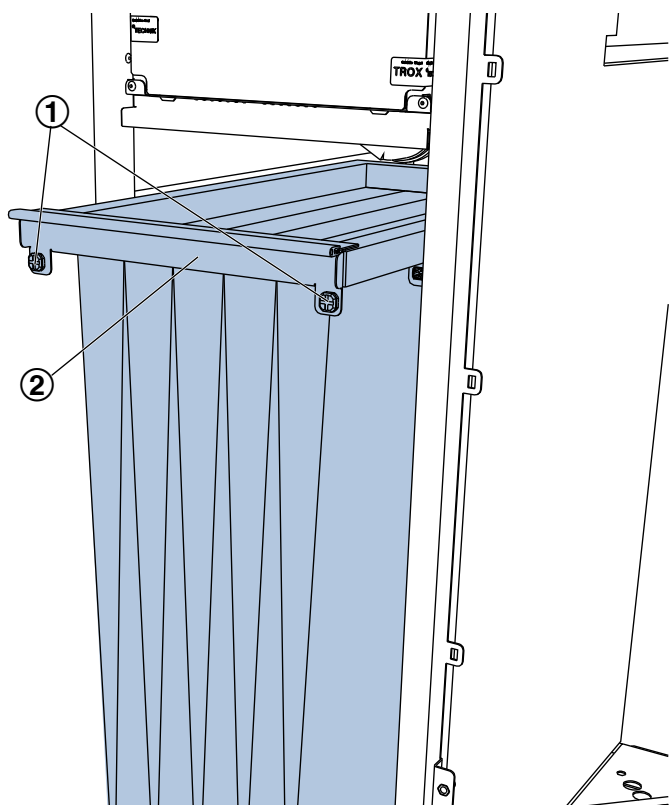

Fig. 57: Outdoor air filter
3. ▶ Open the quick release fasteners (Fig. 57 /1) and pull the outdoor air filter (Fig. 57 /2) out of the filter chamber by the frame.